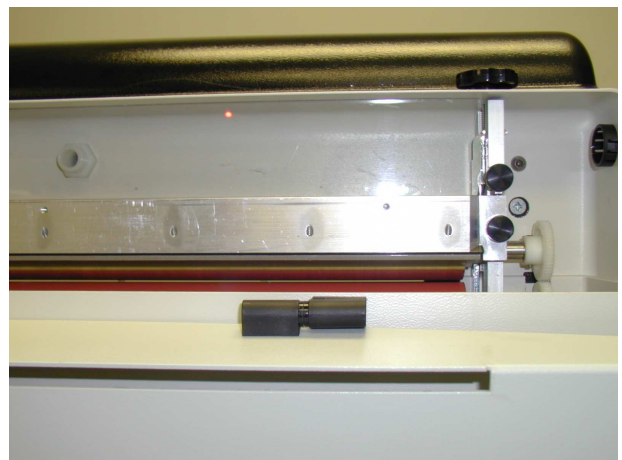

Figure 19: Nip
4. Facing the front of the machine, turn the roller height adjustment screws counterclockwise until you see a gap between the top metal roller and middle silicone rubber roller. This gap is called the nip (see figure 19).